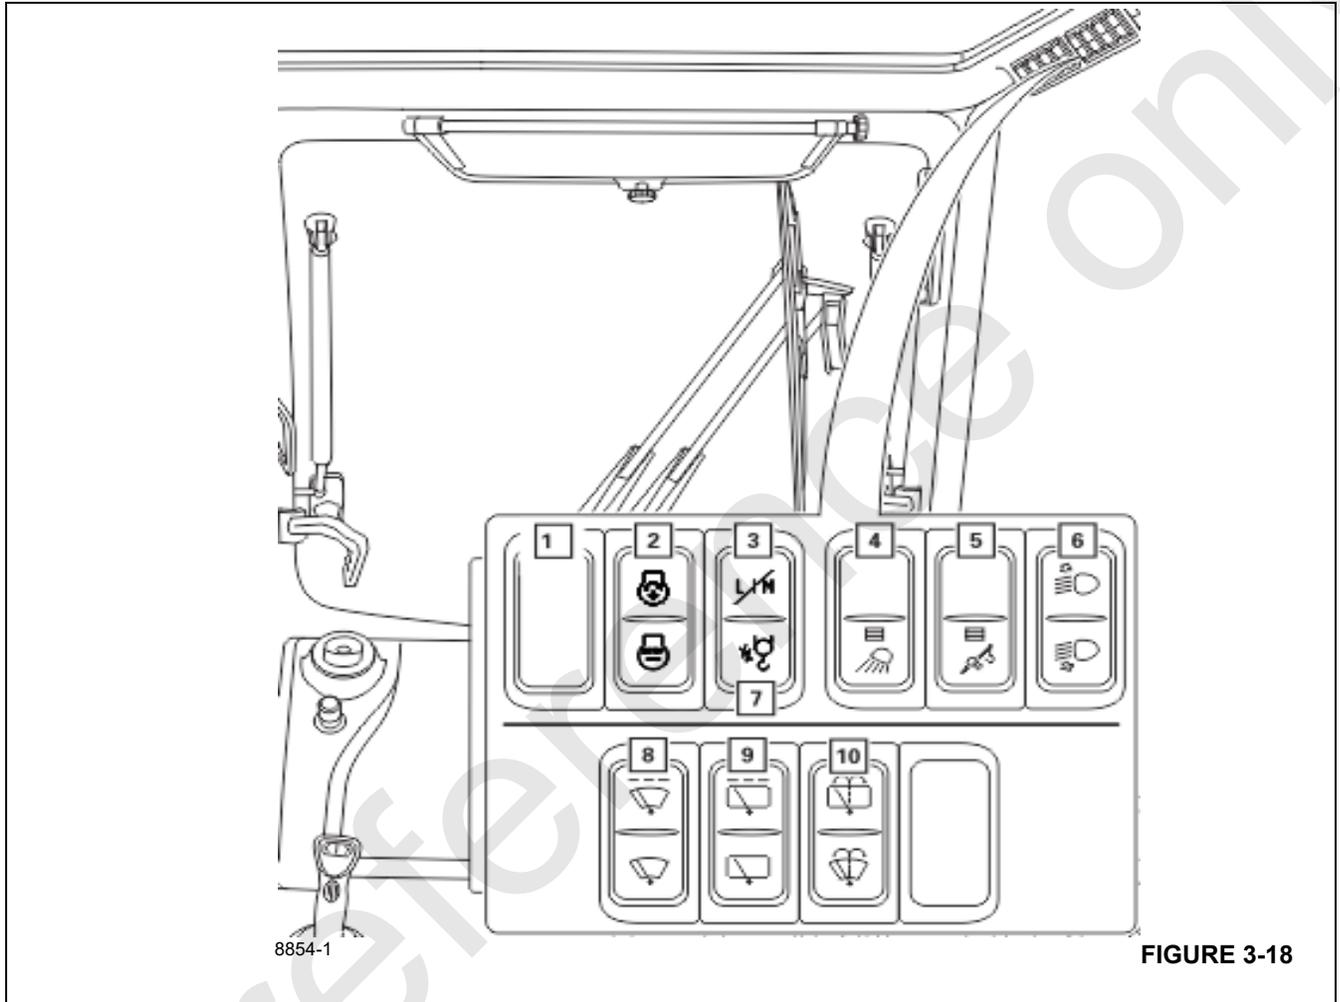

FIGURE 3-18
2. Press and hold the top of the Engine Idle Increment/Decrement Switch (Figure 3-18).
The Superstructure Right Side Overhead Control Panel (Figure 3-18) is located inside the cab, top right-hand side above your head.
The Increment/Decrement – Start/Stop Switch (2), (Figure 3-18) is located on the right overhead control panel.
The Limit Bypass Set-up Switch (3), (Figure 3-18) is a three-position, momentary type rocker switch located on the right overhead control panel.